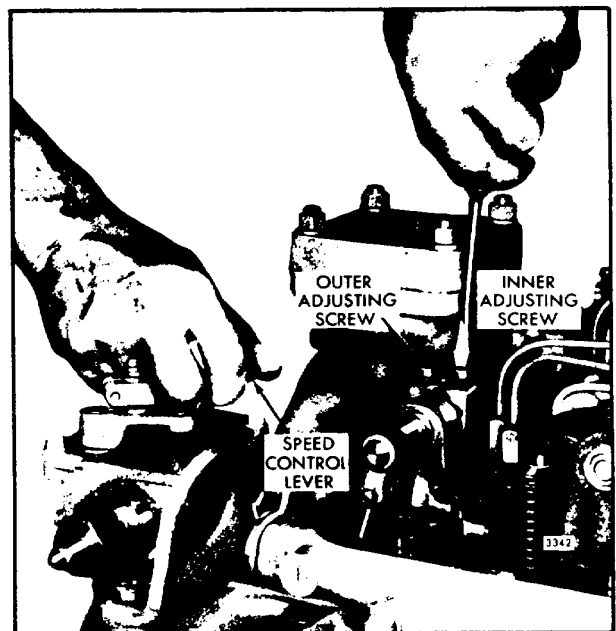

Fig. 2 - Positioning the Rear Injector Rack
4. Loosen all of the inner and outer injector rack control lever adjusting screws (Fig. 2). Be sure all of the levers are free on the injector control tube.